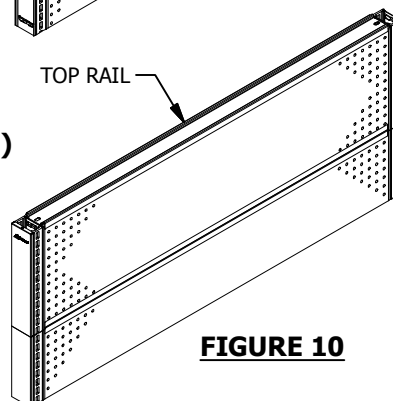

FIGURE 10
STEP 10. INSTALL TOP RAIL (R_T). **(SEE FIGURE 10)**